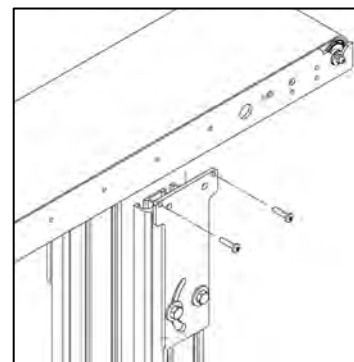

Figure 3
b. Line up the stand with the accessory holes in the side of the conveyor frame and use a Screw Gun with a Torx bit to fasten the stand to the frame (Figure 3).